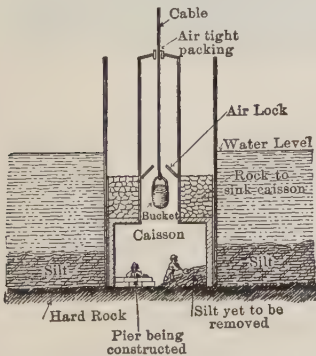

FIGURE 124.—CAISSON IN PLACE.
**81. Caissons and Other Applications.** — The *caisson* (Figure 124) is essentially a box open at the bottom and weighted so that it will sink in the mud of a river or harbor in which an